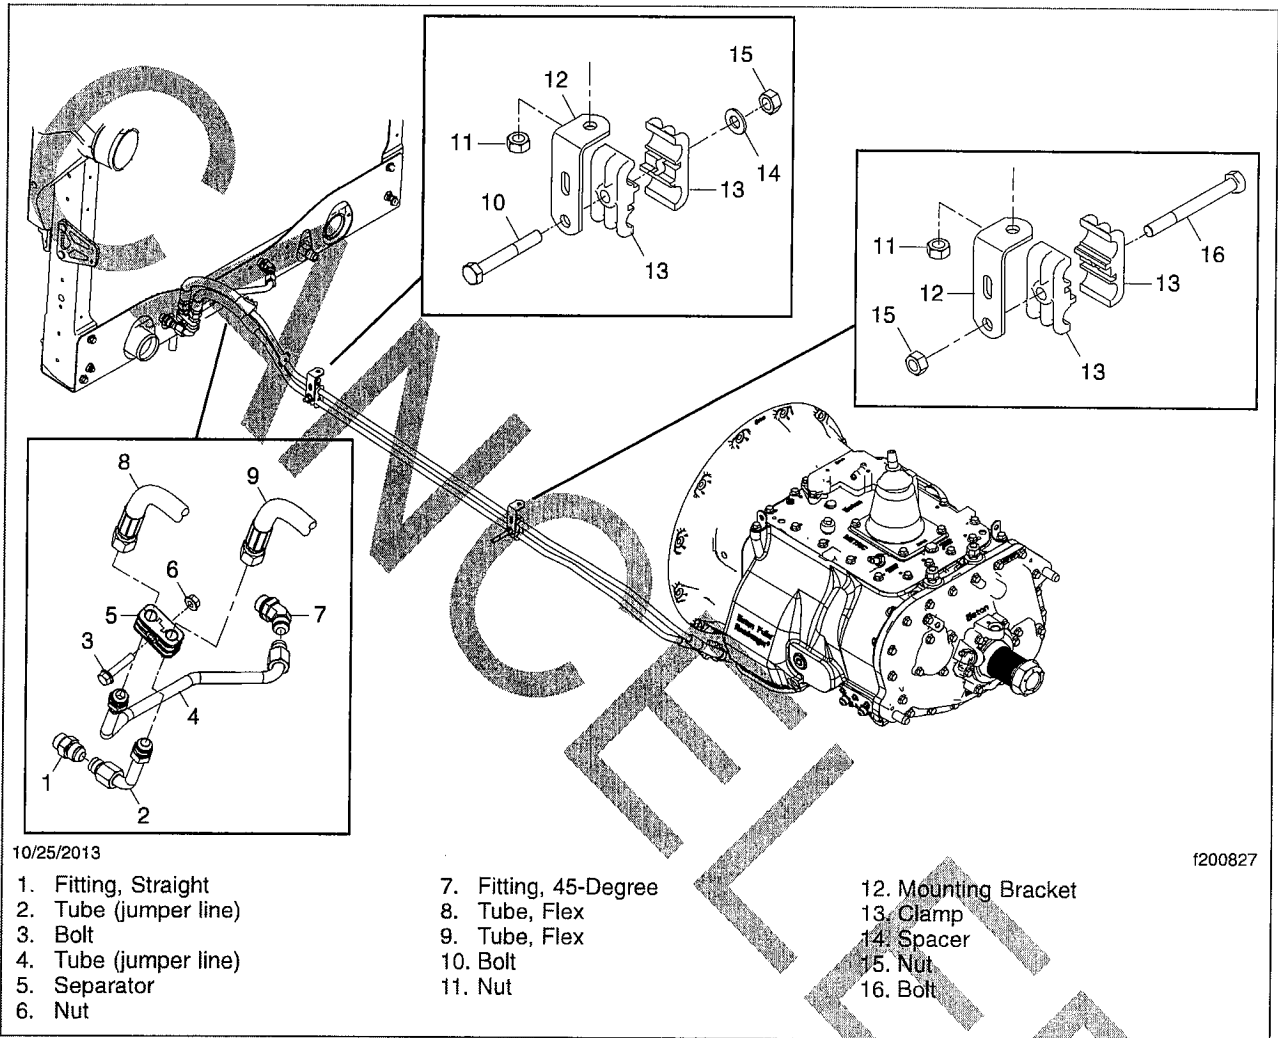
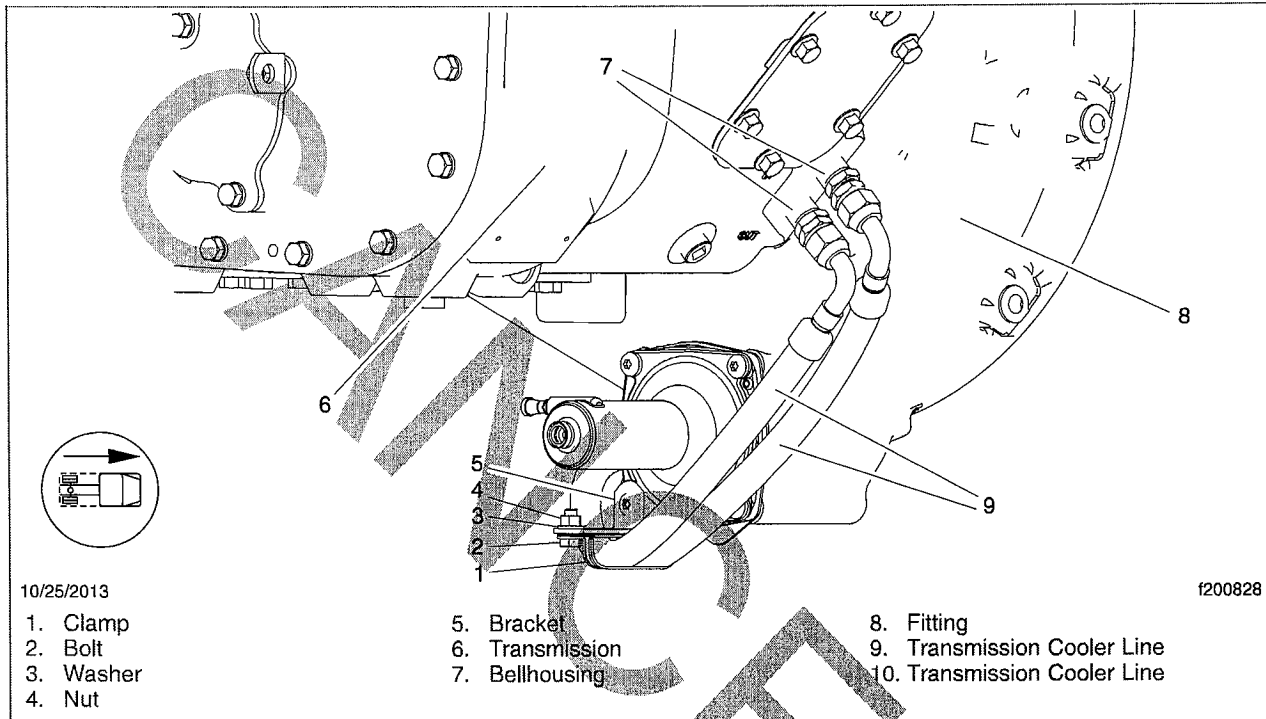

Fig. 5, Transmission Cooler Line Installation (typical)
Fig. 6, Transmission Cooler Line Installation, with Filter
23. Install the new transmission cooler lines from the transmission to the jumper lines on the radiator. Do not install the jumper lines at this time. See **Fig. 5**, **Fig. 6**, and **Fig. 7**. For more vehicle-specific plumbing diagrams refer to EZWiring in PartsPro.